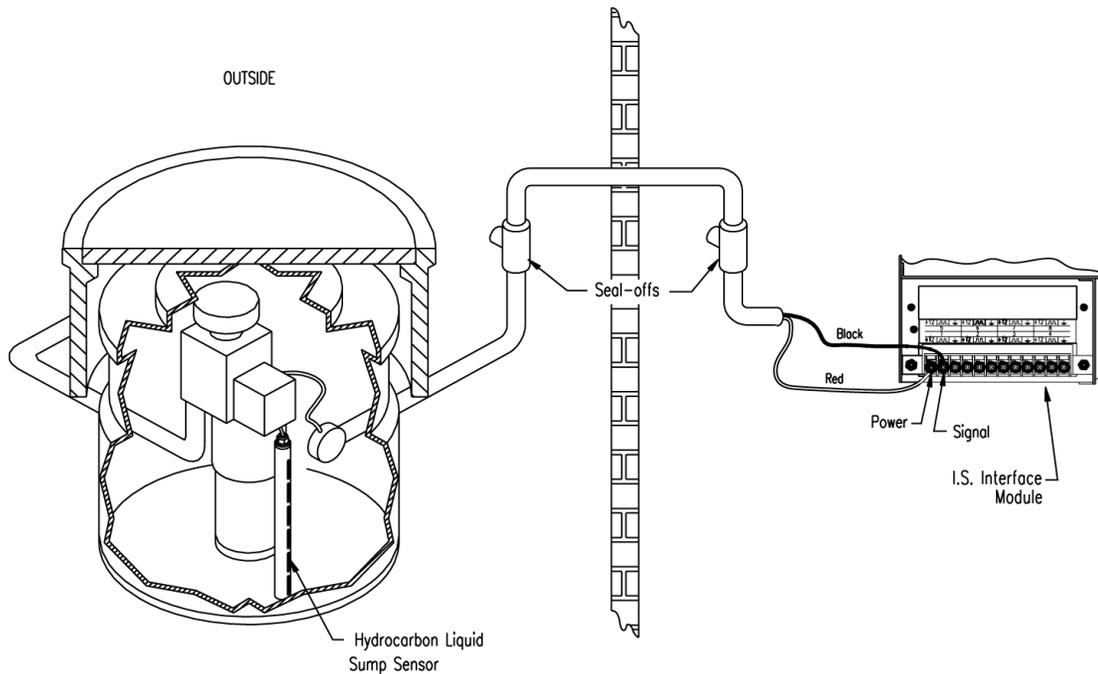

Figure 13-8 Hydrocarbon Liquid Sump Sensor Installation
- Review Figure 13-8 on page 50.